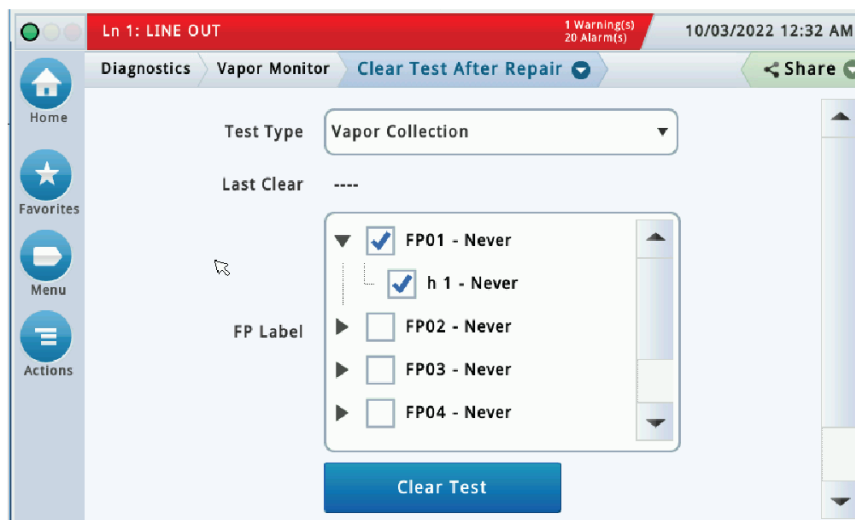

Figure 64. Clearing Vapor Collection Test By Hose
8. Notice - The Vapor Collection test type lets you to clear a collection test on specific fuel position hoses (see Figure 64).